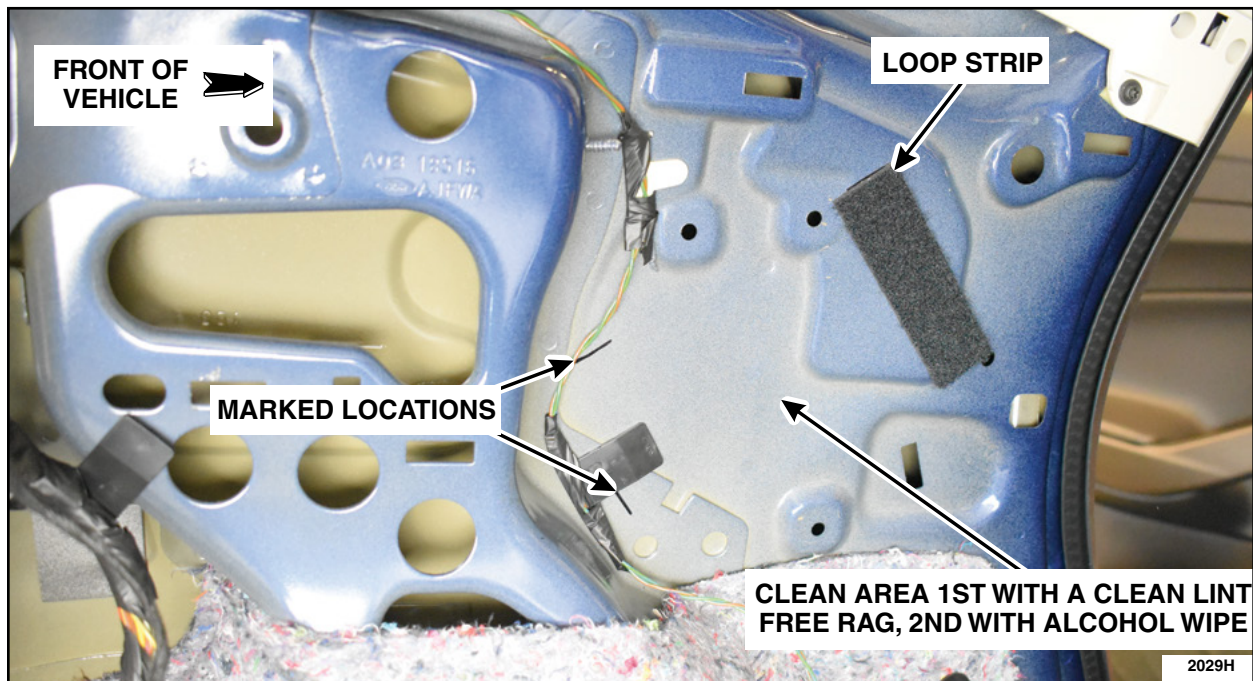

FIGURE 7
9. Clean the surface and apply loop strip. See Figure 7.